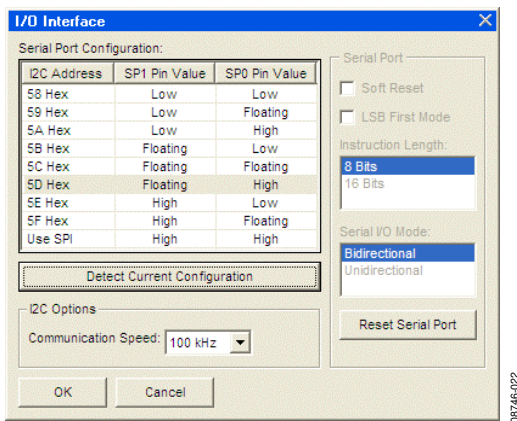

Figure 28. Evaluation Software Serial Port Configuration
5. Repeat Step 4 for both the SCLK\_SCL pin and GND pin of the AD9520 evaluation board to the SCL pin and ground pin of the target board, respectively. On the evaluation software, select **Configure Serial Port** from the I/O menu. This window is shown in Figure 28.